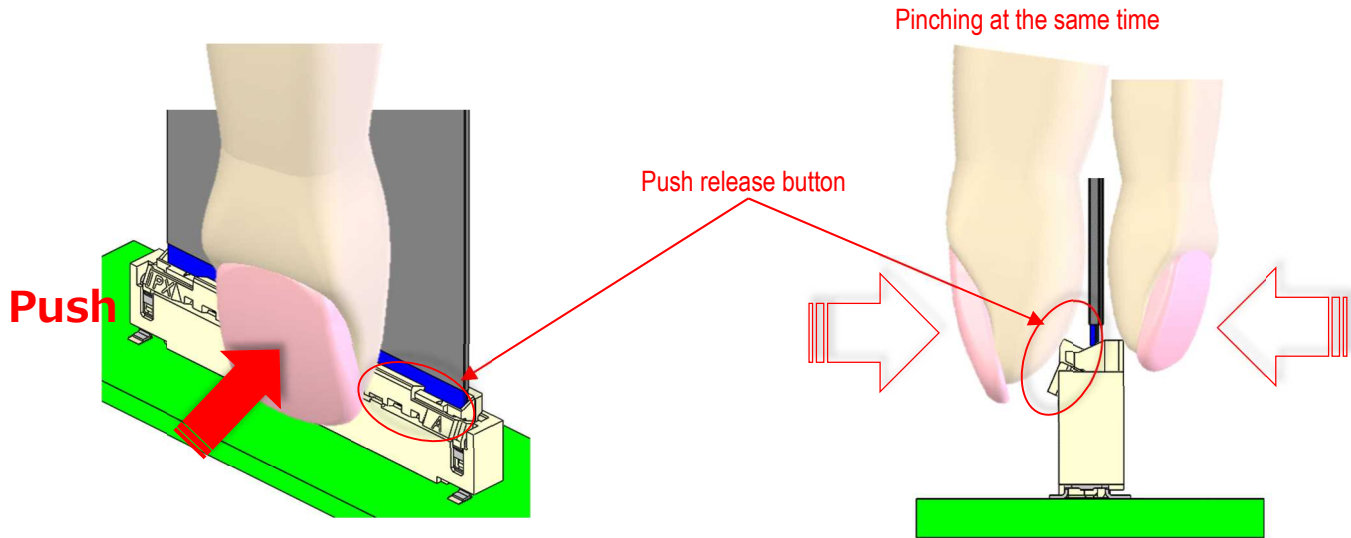

Fig.3-1 FFC/FPC withdrawal method 1
- ① Pinching the FFC/FPC and the release button on the connector at the same time as shown as Fig. 3-1.